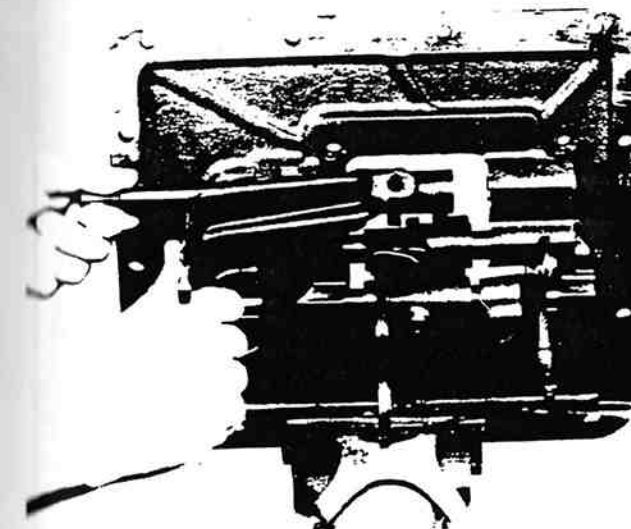

Figure 13-12. Top Shift Bar Removal.
7. Move the top, 4th-5th speed shifting bar to the front and out of housing, removing shifting yoke from bar (figure 13-12).